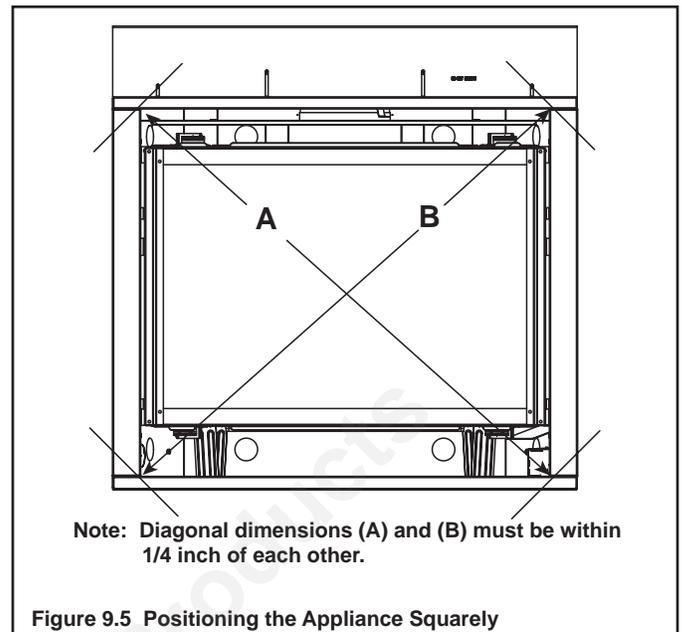

Figure 9.5 Positioning the Appliance Squarely
- “Square” the unit by securing diagonal dimensions to within 1/4 inch of each other. See Figure 9.5.